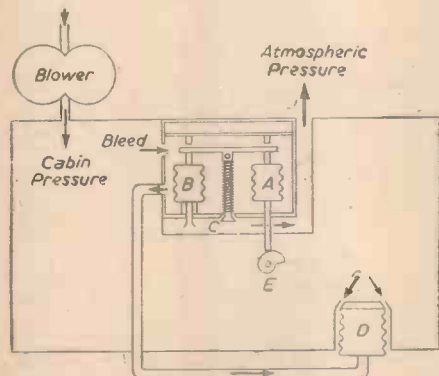

Fig. 2.—Diagram of a Westland master-control valve.
The pressure is controlled by a Westland master-control valve, which is diagrammatically shown in Fig. 2. It comprises a box housing two bellows (A) and (B). Bellows (A) is exhausted of air internally and bellows (B) is subjected internally to atmospheric pressure. At sea level (A) is